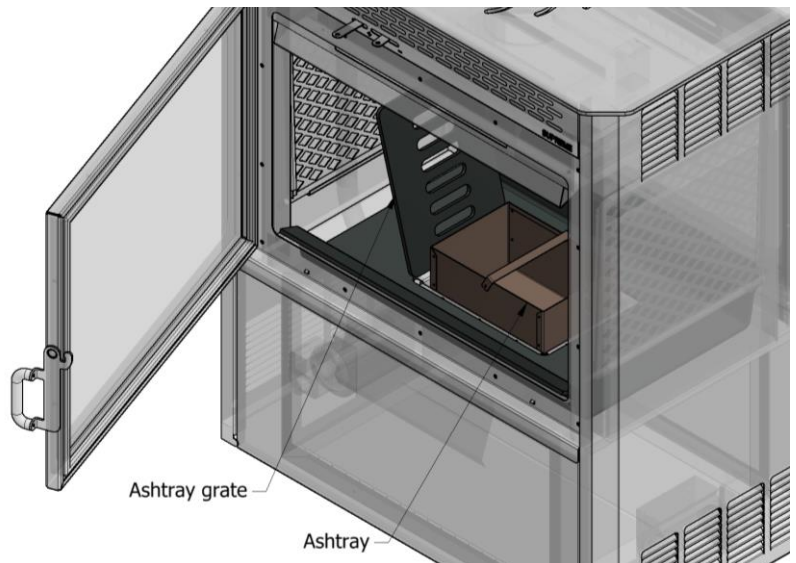

Figure 6 – Ashtray
3. Remove the ashtray grate. (see figure 6).